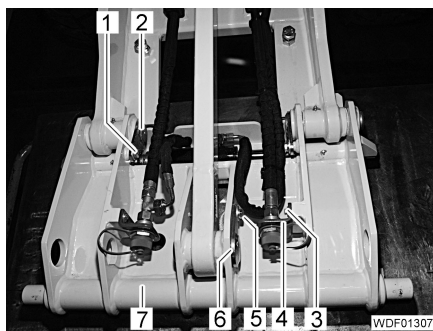

Fig. 438 Securing the tool attachment
- Unscrew the 2 screws (Fig. 438,3).
- Carefully place the 2 hydraulic lines with holders (Fig. 438,4) to one side.
- Unscrew the 3 screws (Fig. 438,1 and 5).
- Drive out the pin (Fig. 438,6) on the drawbar.
- Drive out the 2 pins (Fig. 438,2).
- Carefully raise the load arm until the tool attachment (Fig. 438,7) is free.
- Lower the load arm into the tool attachment (Fig. 438,7) so that the holes of the pin holders line up precisely.
- Drive in the 2 pins (Fig. 438,2).
- Drive in the pin (Fig. 438,6).